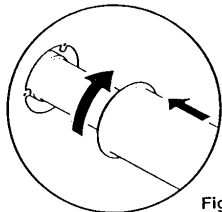

Fig. 56
4. Engage the bayonet slots of the air duct over the location lugs on the back plate opening and press and turn clockwise to secure the air duct to the back plate (Fig. 56).